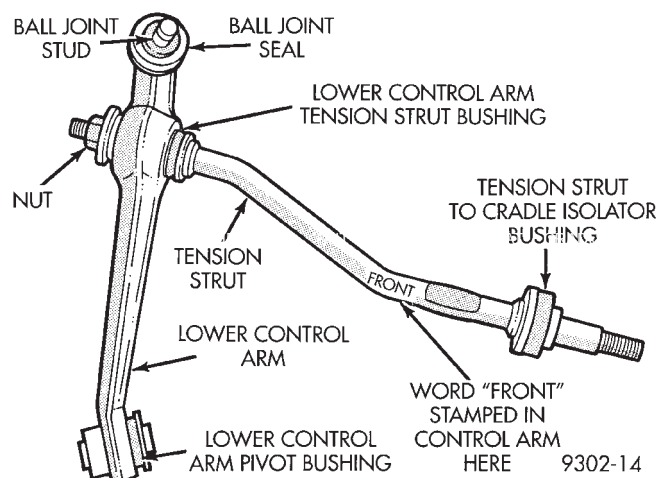

Fig. 77 Tension Strut Installed In Lower Control Arm.
(1) Position tension strut in lower control as shown in (Fig. 77), with word **FRONT** stamped in tension strut positioned away from control arm (Fig. 77). With an open end wrench on flat of tension strut to keep tension strut from turning. Tighten **NEW** tension strut to lower control retaining nut to a torque of 150 N·m (110 ft. lbs.).